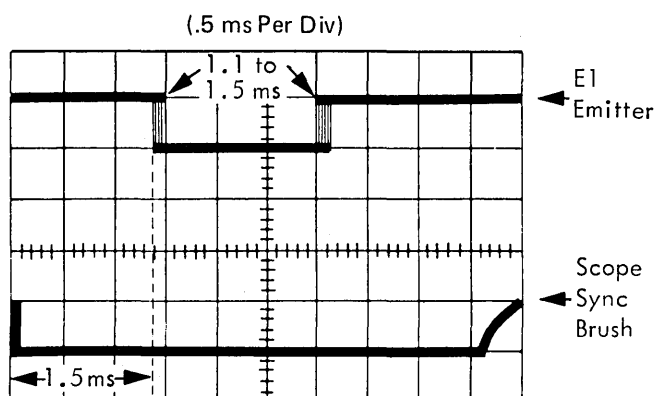

Figure 1-61. Carriage-Tape Brush Timing
2. Sync minus on carriage stop brush (Figure 1-61).